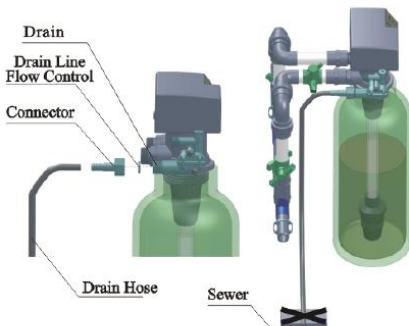

Figure1-3
③ Install drain pipeline
- As Figure1-3 shows: slide the drain hose connector into drain outlet.
- Be sure not to connect drain with sewer, and leave a certain space between them, in order to prevent wastewater absorbed to the water treatment equipment, such as showed in the Figure1-3.